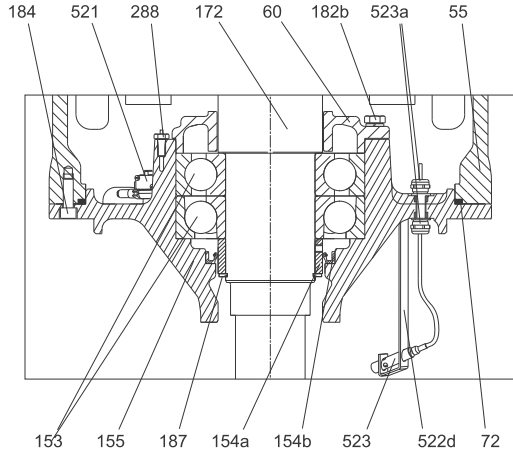

Fig. 57 Lower bearing, KPL 500-800, KWM 600-700
3. Loosen and remove the screw for the WIO sensor bracket (pos. 522d) and remove the WIO sensor with bracket.
4. Loosen and remove the lower bearing temperature sensor (pos. 288).
5. Loosen and remove the screws (pos. 521b) for the moisture switch (pos. 521).
7. Loosen and remove the screws (pos. 182b) for the bearing cover (pos. 60).
11. Remove the circlip (pos. 187).
12. Loosen the set screw in the shaft sleeve (pos. 154a). See fig. 57.
13. Press out the bearings (pos. 153) in a press.
14. Knock out the seal ring (pos. 154b) from the bearing bracket (pos. 155) using a hammer and a punch.